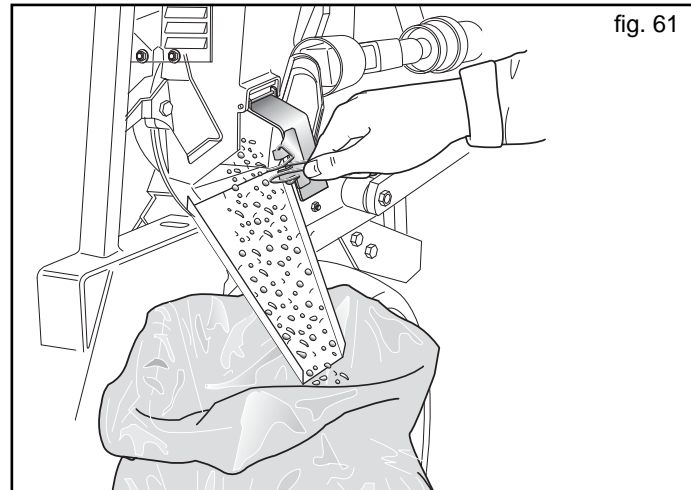

fig. 61
- At the end of seeding, discharge the remaining seeds through the distributor door (Fig. 61).